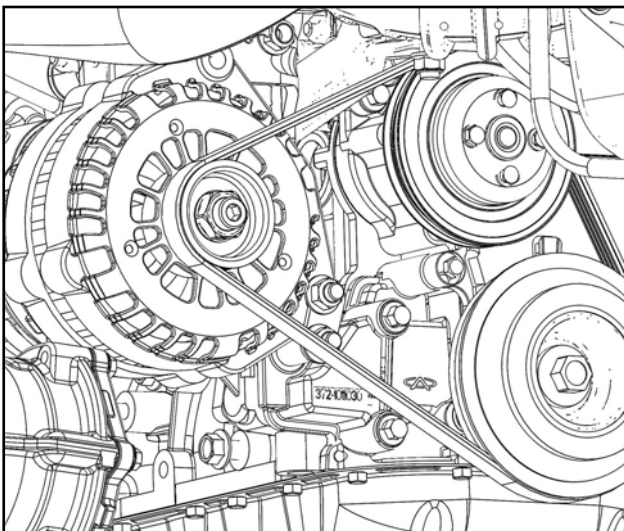

Fig. 3.8 (Install Belt)
3.8 Loosely install new Belt provided in kit per fig 3.8.